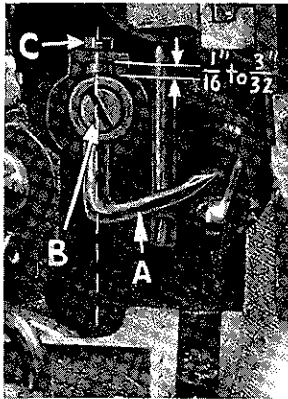

Fig. 7A
Insert upper looper (A, Fig. 7A) in its holder. Screw (B) holds upper looper in its holder, and permits it to be pushed in or out or turned around its shank. Insert upper looper holder into upper looper shaft, if it is not already in place. Screw (C, Fig. 7A) on clamp collar holds upper looper in the shaft, and allows holder to be rotated or adjusted laterally. When upper looper is at the right end of its stroke, upper looper holder should be set to position upper looper shank back of vertical (Fig. 7A). Top end of upper looper shank should extend $1/16$ to $3/32$ inch above the upper looper holder (Fig. 7A). Be sure there is clearance between heel of looper and casting.
Now check setting between upper looper and needle. If needle rubs the back of upper looper, pull looper out of its holder slightly and rotate looper a short distance counterclockwise looking from left end of machine. Reset to maintain dimensions of Figs. 7A, 8A and 9A.